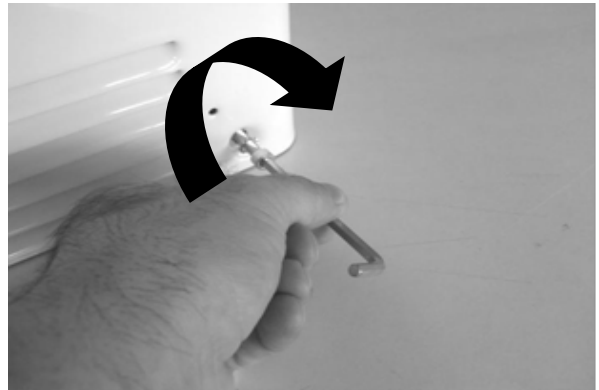

Fig.6
8. Then fasten the body to the base using the screws and tighten them with the special key provided (fig.6).